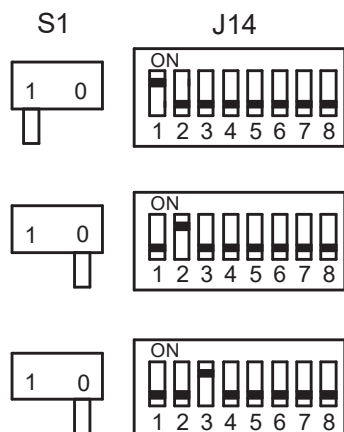

Figure 9 - Positions of the S1 and J14 switches for the first three air heaters in a system
1. Set the S1 and J14 switches on the control unit as follows (figure 9):